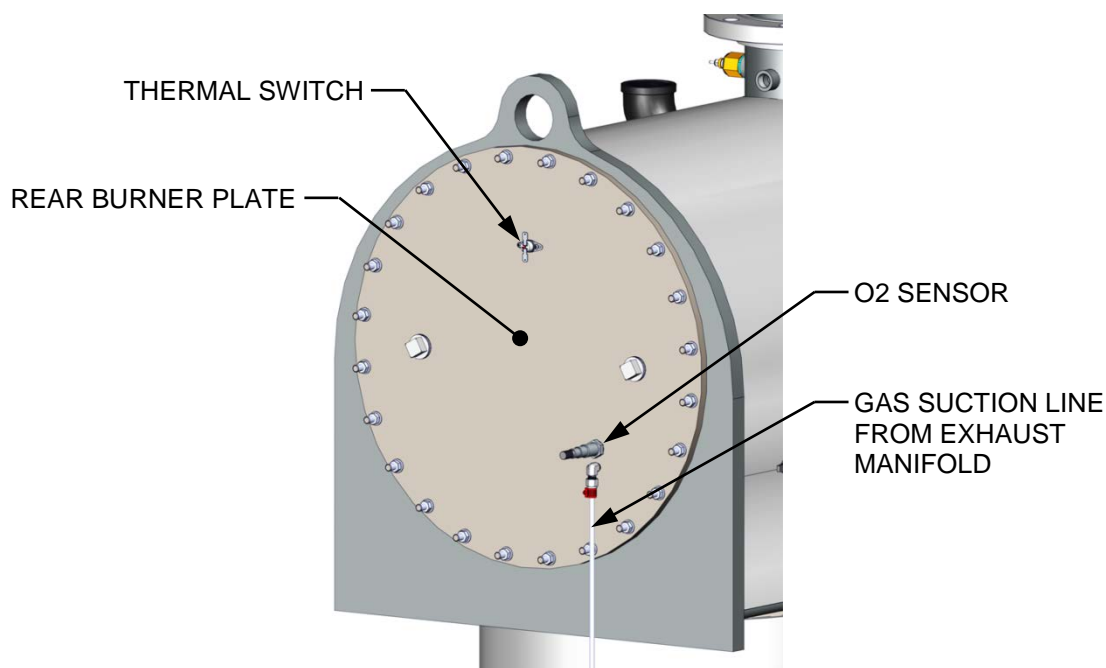

Figure 7-7: Partial Rear View Showing Rear Burner Plate
4. With the panel removed, the rear plate of the combustion chamber can be accessed as shown in Figure 7-7.